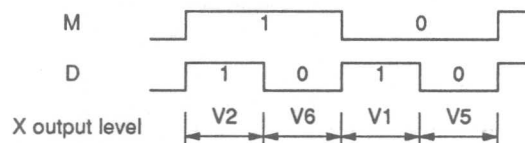

**Figure 1 Power Supply for LCD Driver**
**VLCD, GND:** Supply power to the LCD drive circuits (figure 1).